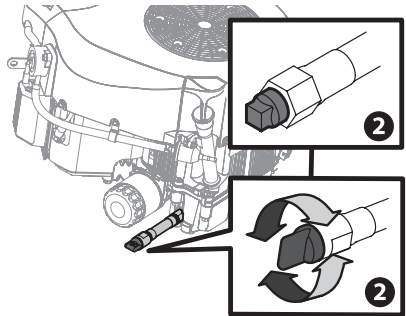

Fig. 36
NOTE: Engine is equipped with either a plastic twist-off or metal square head cap (Fig. 36 insets).
4. Unscrew the cap on the end of the oil drain hose to begin draining oil (Fig. 36 inset).